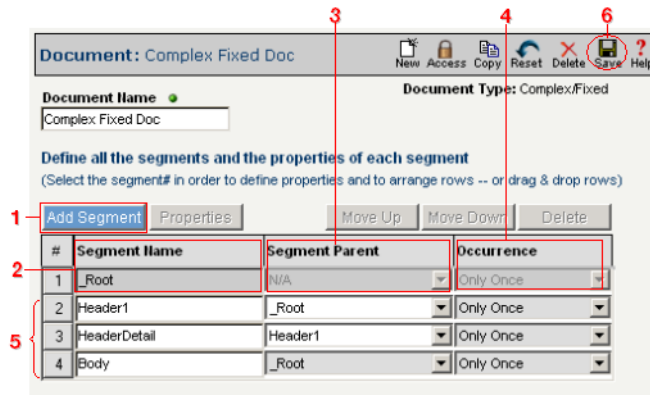

Figure 9-11. Use this screen to define your complex document's segments.
- 6 Click the **Save** button in the toolbar. Your definition should look similar to that shown in Figure 9-11 below.